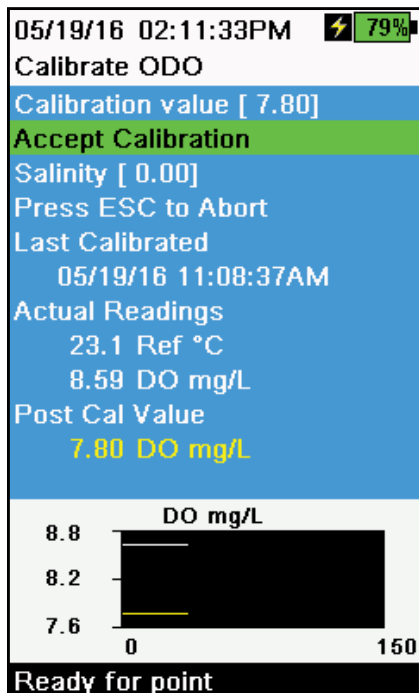

Figure 35 Calibrate DO mg/L
5. Observe the actual measurement readings for stability (white line on graph shows no significant change for 40 seconds), then select **Accept Calibration** (Figure 35). "Calibration successful!" will be displayed in the message area.